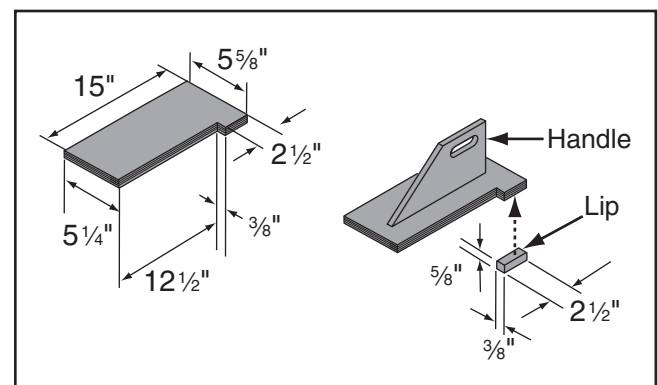

Figure 86. Push block dimensions and construction.
3. Using $\frac{3}{4}$ " material you used in previous steps, cut out pieces for push block per dimensions shown in **Figure 86**; for handle, cut a piece 10" long by 5"–9" high and shape it as desired to fit your hand.